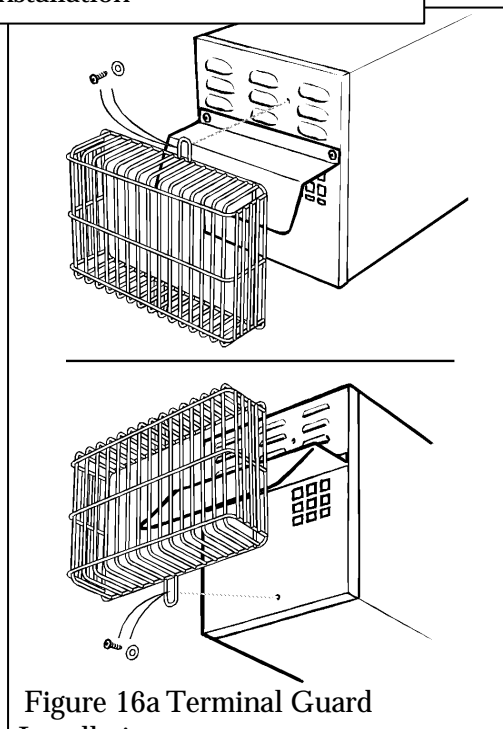

Figure 16a Terminal Guard
10.1.4 Fit the terminal guard. Secure the guard at the bottom with the screw and washer previously removed. Secure the guard at the top between the two right hand columns of louvres using the screw and washer supplied in the pack. see figure 16a.